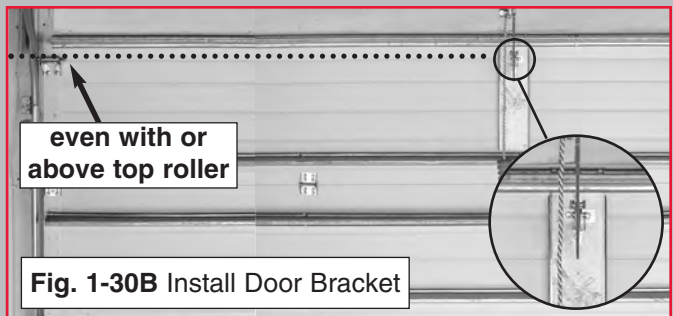

Fig. 1-30B Install Door Bracket
- Locate on centerline, no lower than top rollers (Fig. 1-30B).